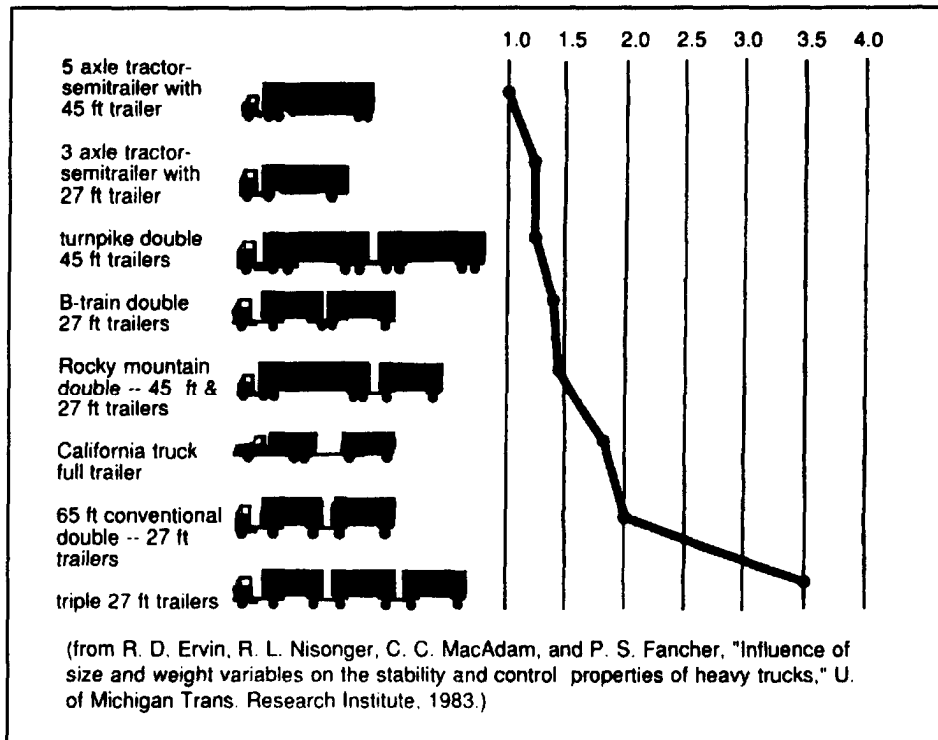

Figure 6-1. Rearward amplification of combination vehicles
- Trucks with trailers have a dangerous crack-the-whip effect. When you quickly change lanes, this effect can turn the trailer over. Avoid quick lane changes, especially when fully loaded. Rearward amplification causes the crack-the-whip effect. Figure 6-1, page 6-3 shows eight types of combination vehicles and their rearward amplification in a quick lane change. Vehicles with the least crack-the-whip effect are at the top; those with the most, at the bottom. Rearward amplification of 2.0 means that the rear trailer is twice as likely to turn over as the tractor. Triple trailers have a rearward amplification of 3.5. This means you can roll the last trailer of triple trailers 3.5 times as easily as a five-axle tractor-semitrailer.